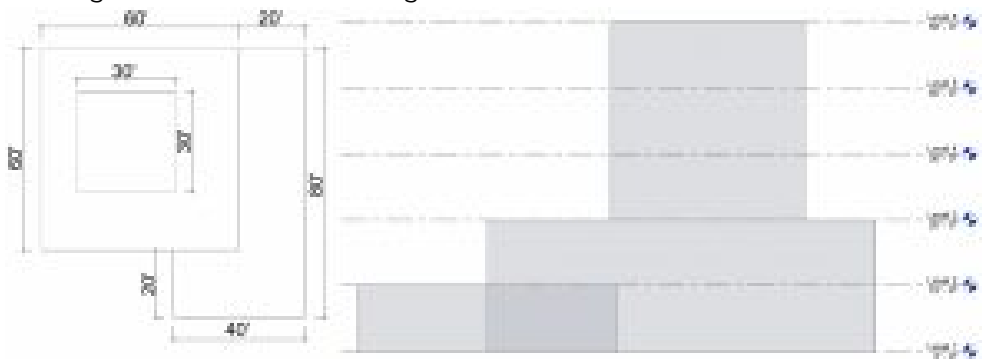

Figure 6.1 Massing dimensions shown in the Level 5 plan and the North elevation view
14. Use the Line tool  to draw a 60ft X 60ft square as shown in Figure 6.1
17. In the 3D view, select the top face of the cube and use the witness lines to adjust the height to 20'0" as shown in Figure 6.1